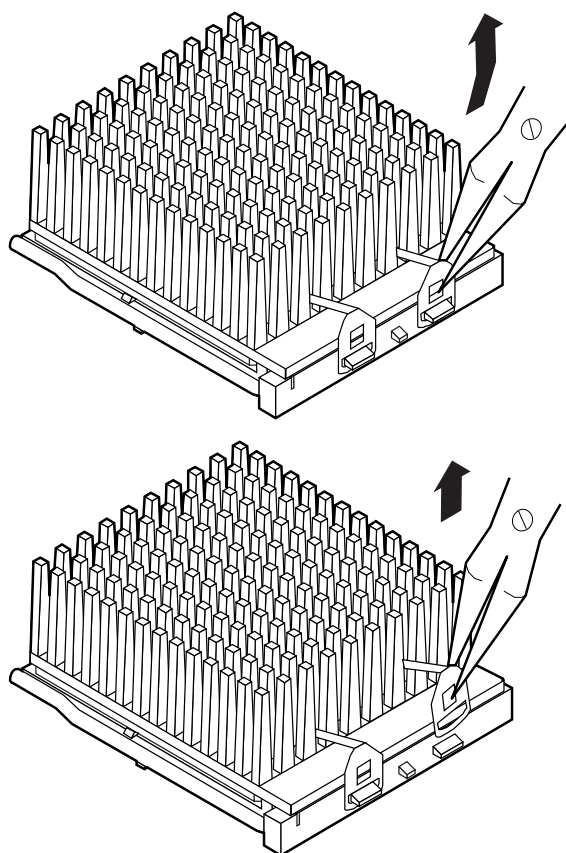

Figure 8-5. Removing the Heat-sink Clips
See Figure 8-5.
5. Beginning with bank 0 (Figure 8-5), socket J1, orient the DIMM so that the two notches in the bottom edge of it align with the keyed DIMM socket.